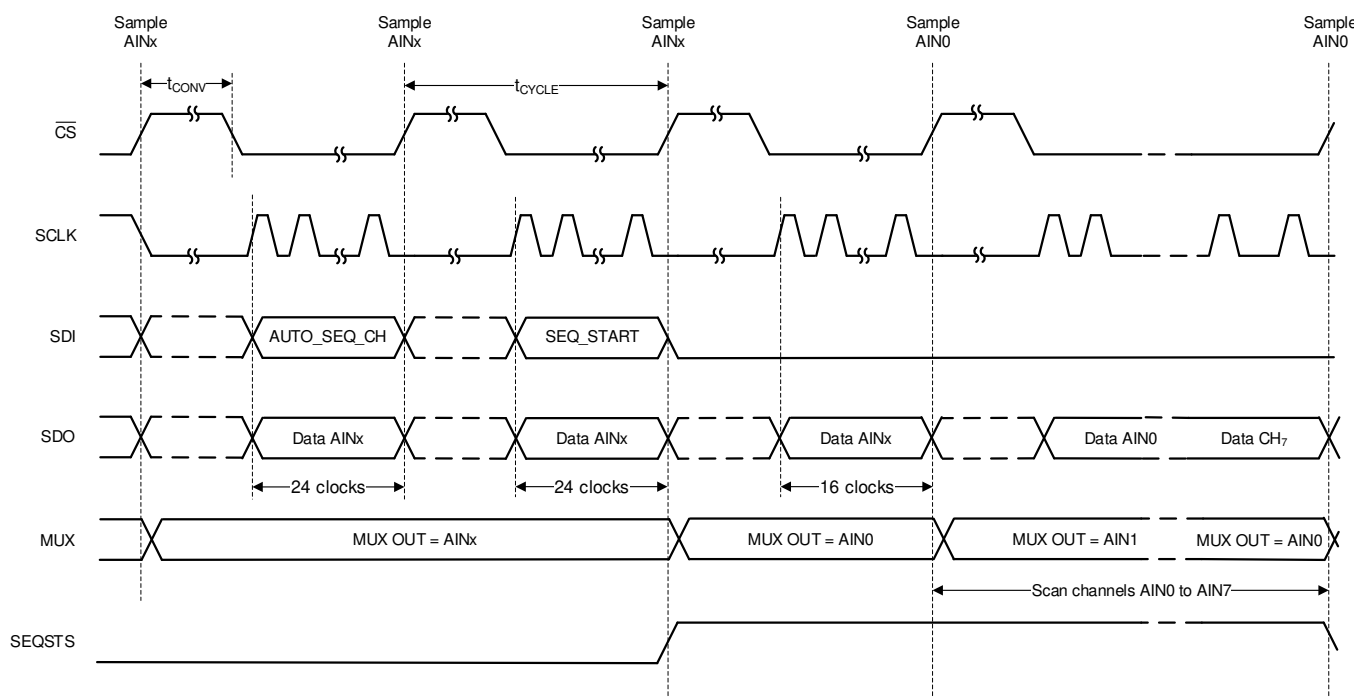
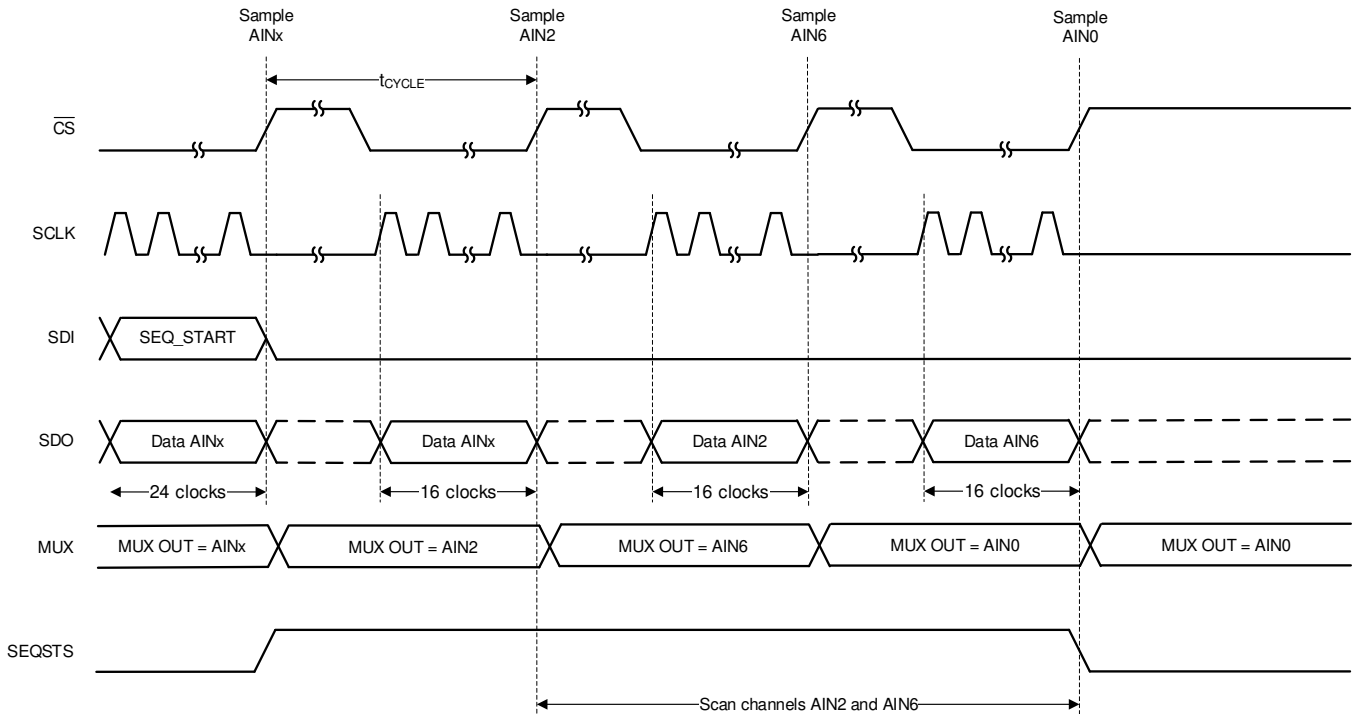

Figure 46. Starting a Sequence in Auto Sequence Mode
Figure 47. Example: Scanning Channels 2 and 6 in Auto Sequence Mode
In auto sequence mode, the internal channel sequencer can selectively scan channels from AIN0 through AIN7 in ascending order. To select auto sequence mode, configure SEQ_MODE to 10b in the DEVICE_CFG register using a 3-byte register access. One or more channels among AIN[7:0] can be enabled by configuring the AUTO_SEQ_CFG1 register. By default all analog input channels are enabled. After enabling the desired channels, the sequence can be started by setting SEQ_START to 1b. The ADC auto-increments through the enabled channels after every $\overline{CS}$ rising edge. When SEQ_START is set to 1b, the SDO-1/SEQSTS pin is at logic 1 as shown in Figure 46 until the last channel conversion is complete. After the last enabled channel conversion is complete, channel AIN0 is selected and SDO-1/SEQSTS is in a high-impedance state.
As an example, Figure 47 depicts a timing diagram for when the device is scanning AIN2 and AIN6 in auto sequence mode. When AIN6 is converted, SDO-1/SEQSTS is Hi-Z and AIN0 is selected as the active channel. At the end of sequence, if more conversion frames are launched the device returns valid data corresponding to AIN0.
- Configure the AUTO_SEQ_CFG1 register. In Figure 47, AUTO_SEQ_CFG1 = 0x44.
After configuring the channel scanning order, start index, and stop index the scanning can be initiated by setting the SEQ_START bit to 1b. The ADC scans through the enabled channels after every CS rising edge as defined by the channel scanning order. When SEQ_START is set to 1b, the SDO-1/SEQSTS pin is pulled high until the last channel conversion frame is complete, as described in Figure 46. As illustrated in Figure 47, channel AIN0 is selected and SEQSTS/SDO-1 goes to Hi-Z after the last enabled channel conversion is complete.
As an example, Figure 47 provides a timing diagram for when the channel configuration is set as in Table 5. When AIN6 is converted, SEQSTS/SDO-1 goes to Hi-Z and AIN0 is selected as the active channel. If more conversion frames are launched at the end of the sequence, the device returns valid data corresponding to AIN0.
- Configure the CCS_START_INDEX and the CCS_END_INDEX registers. In Figure 47, CCS_START_INDEX = 0 and CCS_STOP_INDEX = 1.
- Configure the CCS_SEQ_LOOP register to 1 to indefinitely loop the sequence. In Figure 47, the CCS_SEQ_LOOP register = 0b.